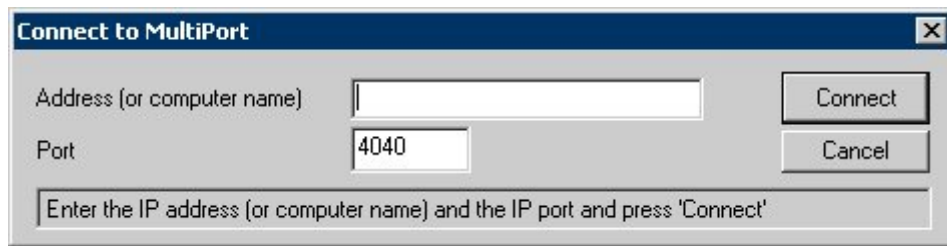

Figure 50. HorizonADV Connect to MultiPort Dialog Box
- In the **Connect to MultiPort** dialog box (Figure 50), enter the **IP Address** and **Port** of the MultiPort interface box. Note: To change the IP configuration, see B-4.3.